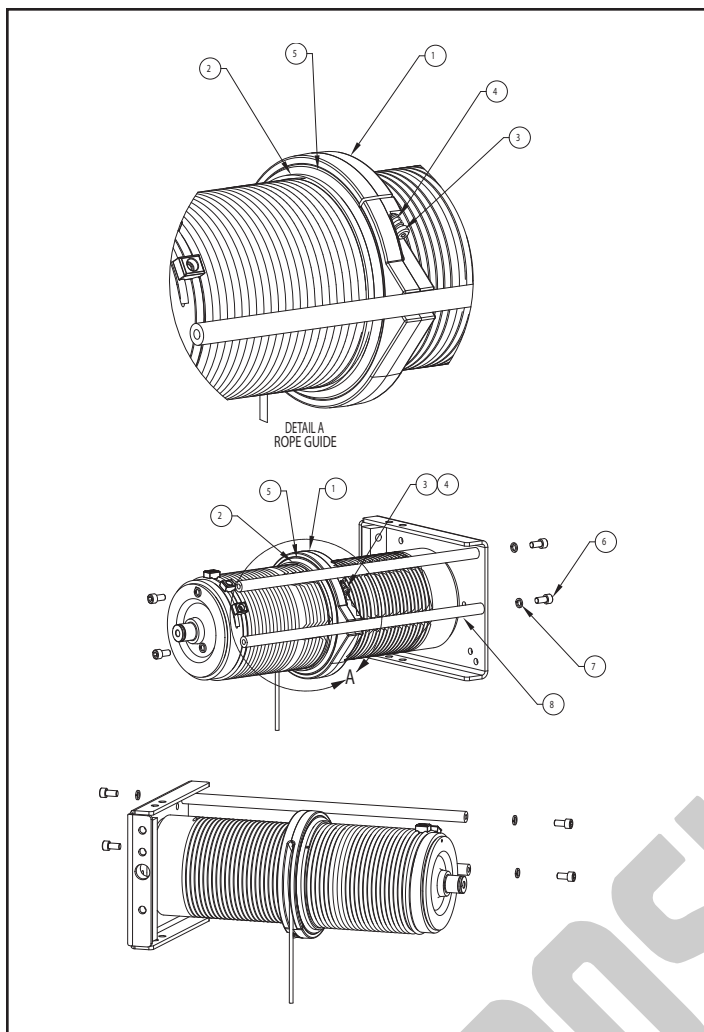

Figure 5-3 Rope Guide Assembly
b) Disassembly of "A" Frame Rope Guide. Refer to Fig. 5-3. For further assistance in locating components, refer to the parts list in Section IX.
- (1) Remove socket head cap screws and lock washers (Items 6 and 7). Remove drum frame rod (Item 8).
- (2) Remove shoulder bolts (Item 3) and compression springs (Item 4). The two halves of the rope guide body (Item 1) can now be pulled off the drum separately. When reassembling be sure that the half with the rope slot is on the top half of the drum.